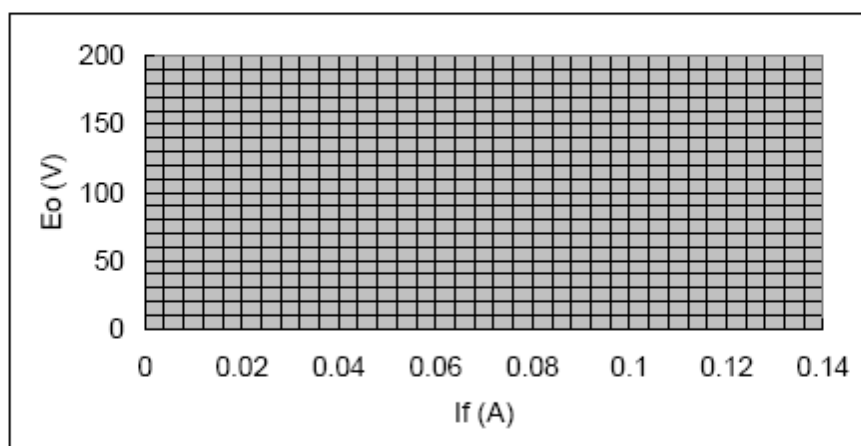

Fig. 9-1-3 The E_o vs I_f curve
11. Using the results of Table 9-1-1, plot the E_o vs I_f curve on the graph of Fig. 9-1-3.